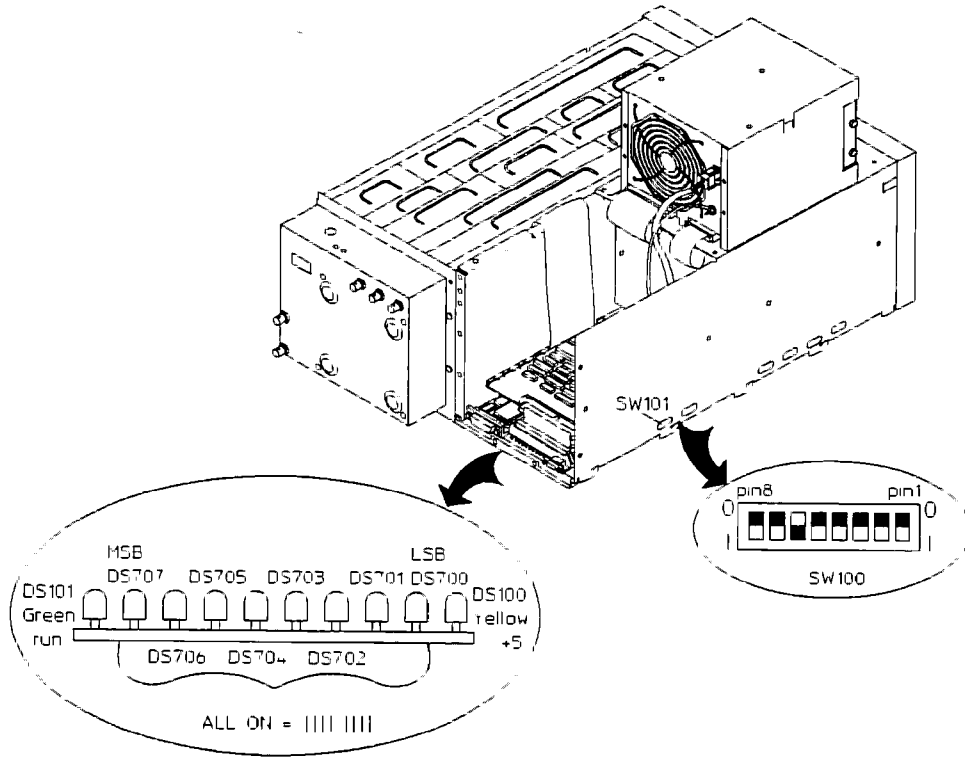

Figure 5-6. Power-on Test LEDs
1. Set the power switch to STANDBY (⓪). On the CPU assembly, set SW100 pin 6 to one and pin 4 to zero. Check that the other pins are set to zero (see figure 5-6).
2. Set the power switch to ON (I). On the CPU assembly, press SW101 (reset switch) while watching the power-on test LEDs (see figure 5-6). The power-on test LEDs pass sequence occurs if the LEDs respond as follows:
3. Set the power switch to ON (1). On the CPU assembly, press SW101 (reset switch) while monitoring the power-on test LEDs (see figure 5-6). The LEDs display fail code hexadecimal F3 (1111 0011) for 10 seconds, then flash hexadecimal 0F. If the LEDs do not respond correctly, the CPU assembly is faulty.